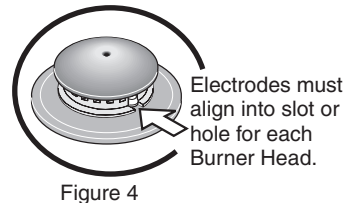
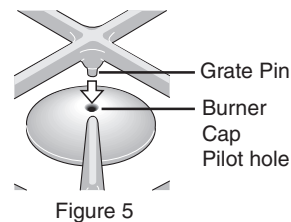

Figure 4
Figure 5
4. To replace Burner Heads & Caps, match the letters located under center of Burner Caps with the letters located inside Burner Head (See Figure 5). Place all Burner Heads & Caps on the cooktop while carefully aligning the Electrodes into slots or holes of the Burner Heads (Figure 4). Note: The Burner Heads should sit flat on Cooktop Burner Skirts.
5. Unpack Burner Grates. NOTE: Do not force End Burner Grates down on cooktop. Be careful to line up the 2 Grate Pins located on each of the 2 End Burner Grates into the Pilot holes located on top of the Burner Caps (See Figure 5). Position Burner Grates on cooktop and check that all the Burner Grate legs lie on the glass surface.